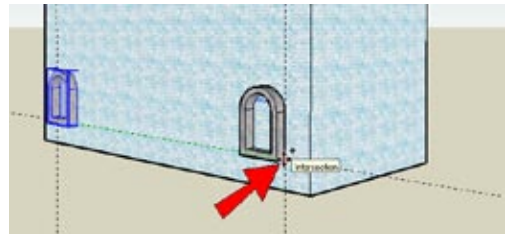

Figure 1-26
- Press **Ctrl/Option**, and click the second move point at the intersection of the right and bottom construction lines (Figure 1-26).